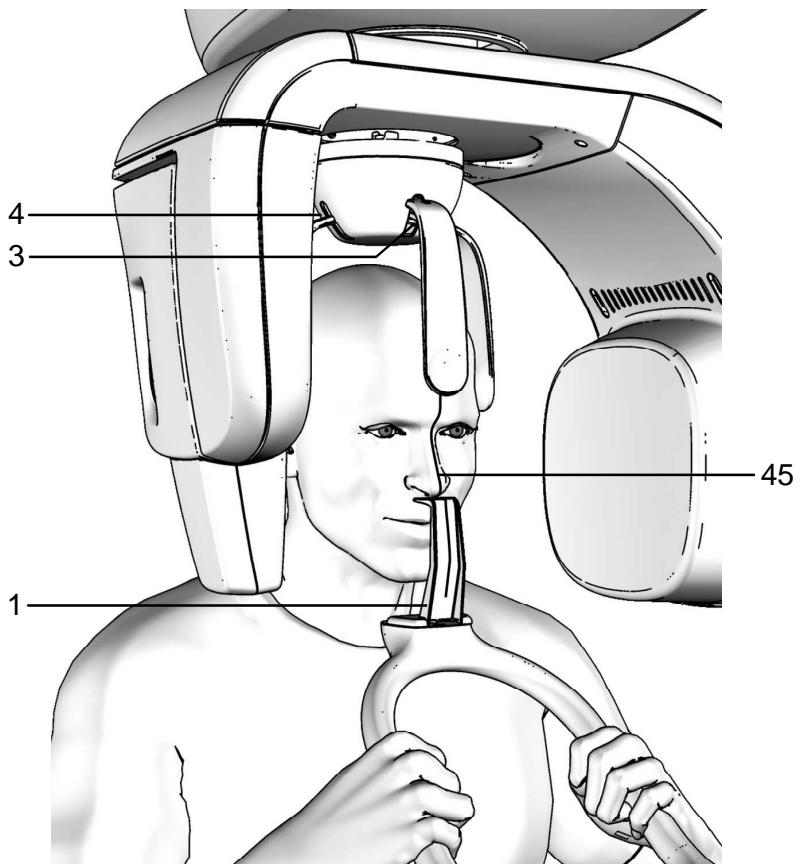

Figure 10 – TMJ closed mouth positioning
4. Position the patient with the temple clasps (Figure 10) asking him to place his hands on the front support.
Using as reference the sagittal medial plane laser, position the patient's head in such a way that the sagittal medial plane is lit by the corresponding laser beam as in Figure 10.